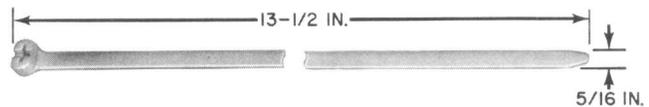

Fig. 8—B Cable Tie
- (e) **B Cable Tie (Fig. 8):** Used to secure the cables to the ground bracket assembly.